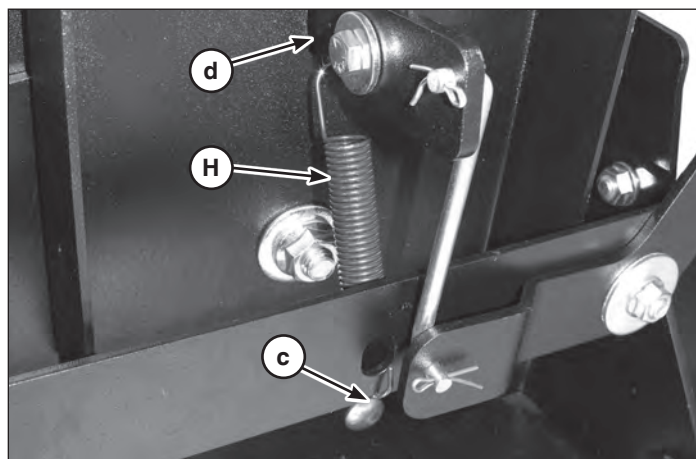

Figure 11
6. Attach spring extension (**H**, Figure 11) to notch (**c**) on blade assembly and hole (**d**) on hitch pivot assembly.